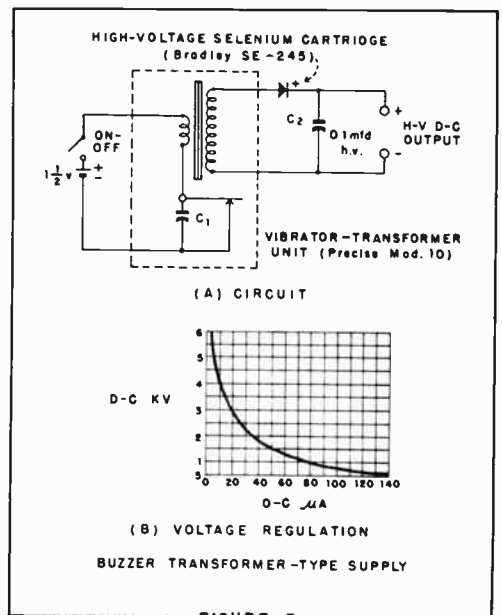

FIGURE 3
In more remote country areas, a fairly large antenna may be needed to extract energy from passing radio waves. Normally, an aerial is supposed to be well insulated at both ends, especially if it hangs from a metal tower or mast. However, an unusual twist is shown in Figure 3. The wire is insulated at the receiver end, but is well connected to the far tower. With a return path formed by the ground, the antenna acts as a huge loop, and under some circumstances gives better results than a conventional all-insulated aerial.
Earphone connects across 1N48 diode in simplest circuit, Fig. 1. Results are improved by the addition of coil, and capacitor across earphone, Fig. 2. A long wire aerial with grounded end boosts effectiveness a good deal in remote areas. Fig 3.
Figure 3(A) shows the circuit of a vibrator (buzzer) type high-voltage supply of this kind. The vibrator transformer here is a Precise Model 10. This is a small unit (having about the same dimensions as a 6L6 metal tube) which plugs into an octal socket. The step-up transformer, vibrator, and spark suppression capacitor ( $C_1$ ) are self-contained. A single 1½-volt, Size-D flashlight cell supplies the DC driving voltage. Current drain is approximately 35 milliamperes.
The open-circuit output potential is 6000 volts DC. Figure 3(B) shows the voltage regulation of the circuit. From this plot, it may be seen that the output voltage falls to approximately 500 volts at a current drain of 140 microamperes (load resistance of  $3\frac{1}{2}$  megohms). A potential of 1000 volts is obtained at 70  $\mu$ a drain. The output voltage may be regulated through the use of a filamentless, miniature regulator tube such as Type CK5517 for 2.3 kilovolts, 5841 for 900 volts, or CK1036 for 700 volts.